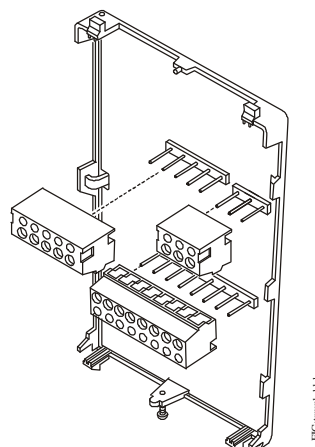

Figure 4: Removing the Screw Terminal Blocks
9. Remove the screw terminal blocks that are attached to a disposable adhesive. Figure 4 illustrates the locations of the screw terminal blocks on the thermostat controller.